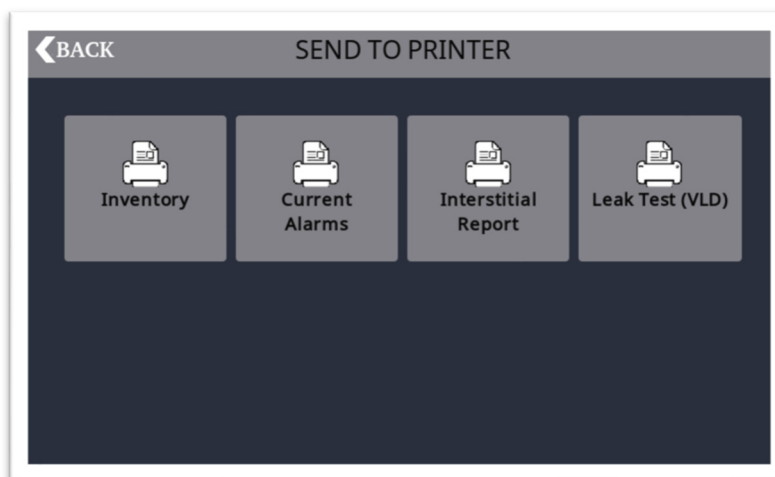

Figure 10.0
(See Figure 10.0)
***Note: The INTERSTITIAL REPORT and LEAK TEST (VLD) icons (Figure 10.0) are only available on Versions MMG400-P001AF and higher.***